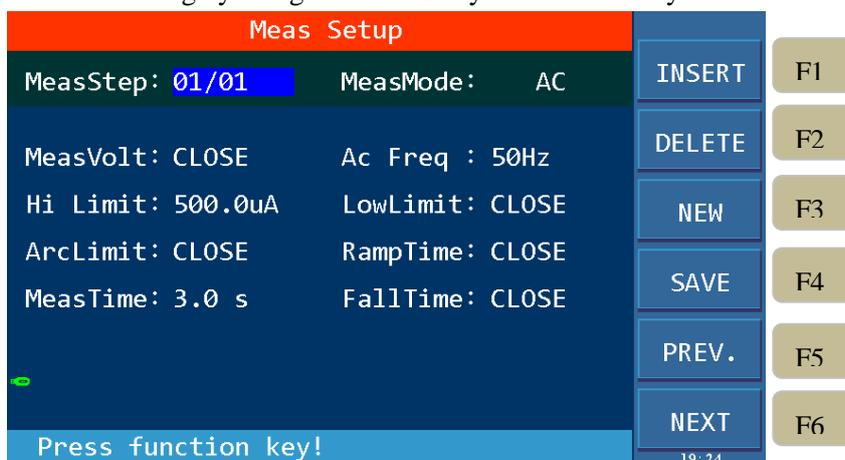

Figure 4-11 Meas Setup
1. Press [SETUP] to enter the measurement setup interface shown in Figure 4-11.